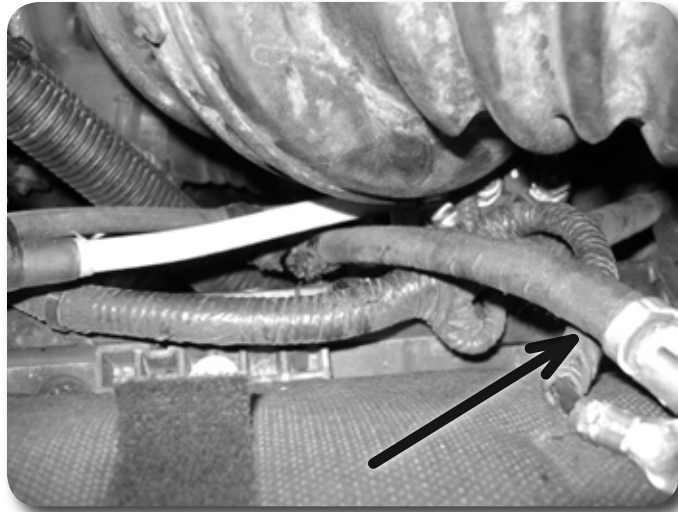

Figure 20
28. Gain adequate slack for the battery cables on the passenger's side, it may be necessary to adjust clamps on battery terminals Figures 20 – top view (pass side).